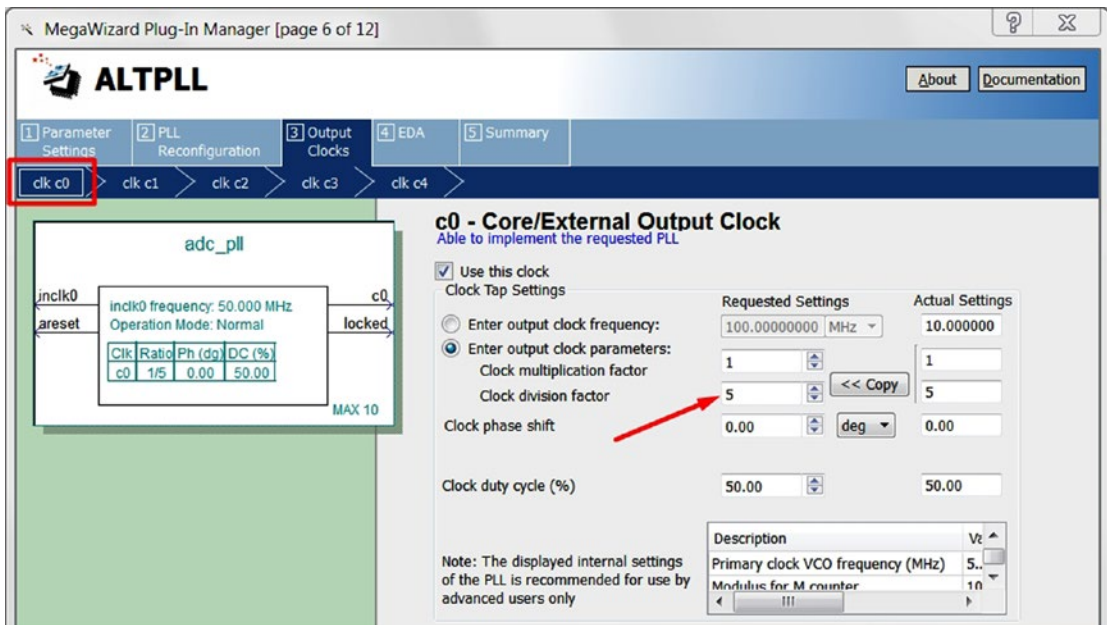
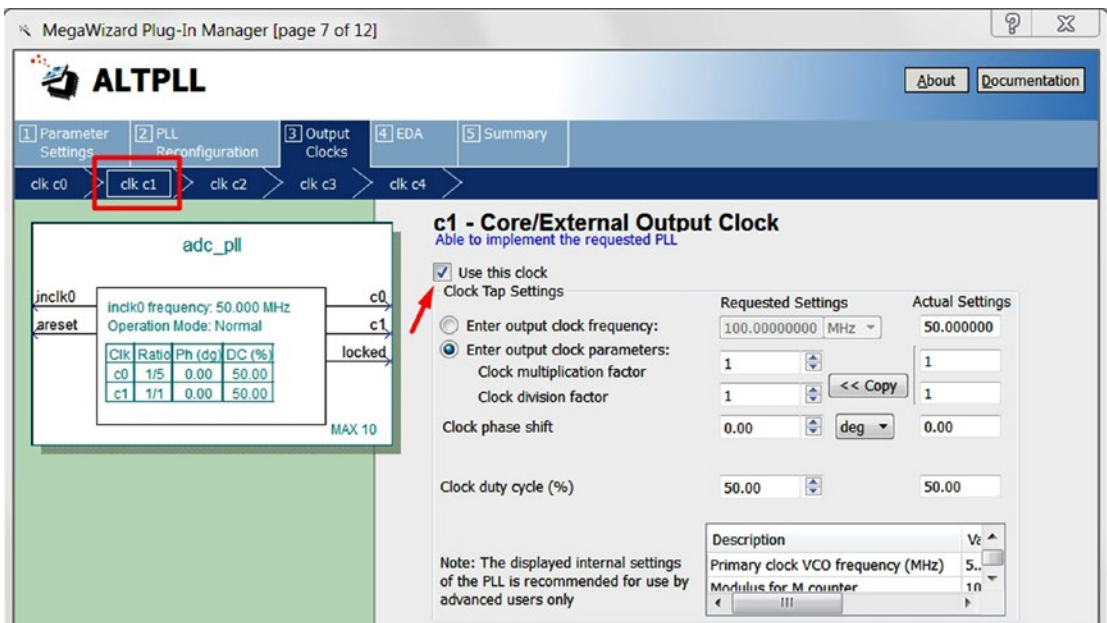

Figure 12-20. MegaWizard Plug-In Manager for ADC IP—3
Figure 12-21. MegaWizard Plug-In Manager for ADC IP—4
Step 4: Under the **3: Output Clocks** tab, the ADC requires a 10 MHz clock from the c0 output of PLL_1 on our BeMicro Max10 board. On the **clk c0** tab in Figure 12-20, change the division factor to 5. On the **clk c1** tab in Figure 12-21, tick the **Use this clock** checkbox and leave the rest of the parameters at their defaults.